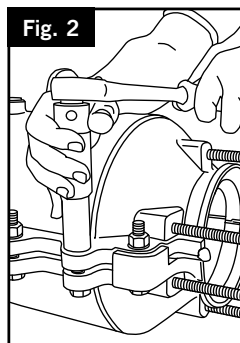

Fig. 2
- 2) Remove the nuts and washers from the bolts on both sides of the clamp shells. The bolts will retain to one of the clamp shells. (FIG 2)